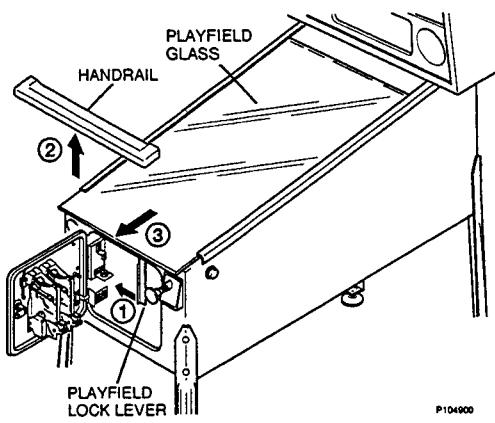

FIGURE 9: REMOVING PLAYFIELD GLASS
16) Open the coin door. Locate lock lever and pull towards center of cabinet; remove handrail and set aside. Remove playfield glass by sliding down and out of armor guides. CAREFULLY set glass aside (see Figure 9). Remove foam packing from Captive Ball.